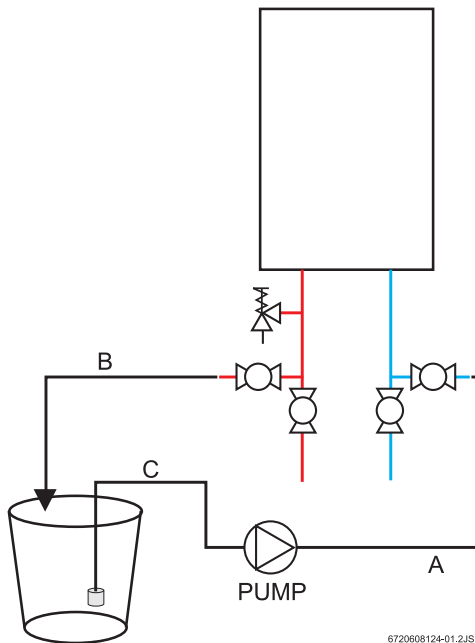

Fig. 55
5. Connect a line (A) from the outlet of the circulating pump (installer supplied) to the inlet water fitting on the water heater (see Fig. 55).
6. Using another line (B), connect to the water outlet fitting on the water heater. Route the other end of this line into a descaling reservoir.
7. Using a 3rd line (C) from the descaling reservoir, connect to the inlet side of circulating pump. Install a filter on the end of this line in the descaling reservoir.